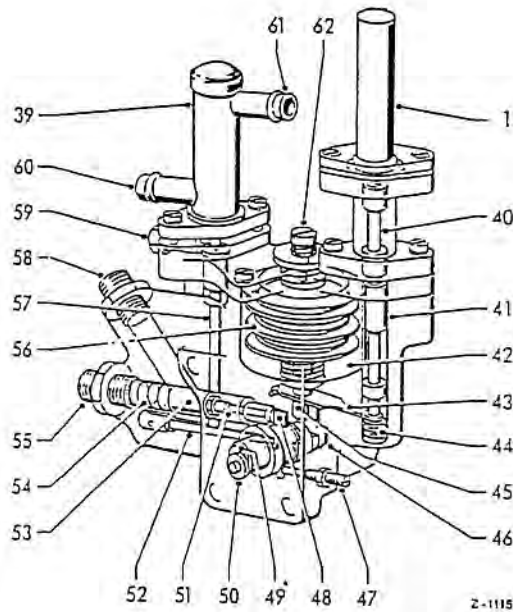

Fig. 07-10/15
A defective cooling water thermostat can be fixed in the switched-off position corresponding to a cooling water temperature above 60° C or 68° C respectively by pressing the stop bolt (59) in and giving it half a turn to the right until it engages again (Fig. 07-10/15). The whole warming-up mechanism is then inoperative.